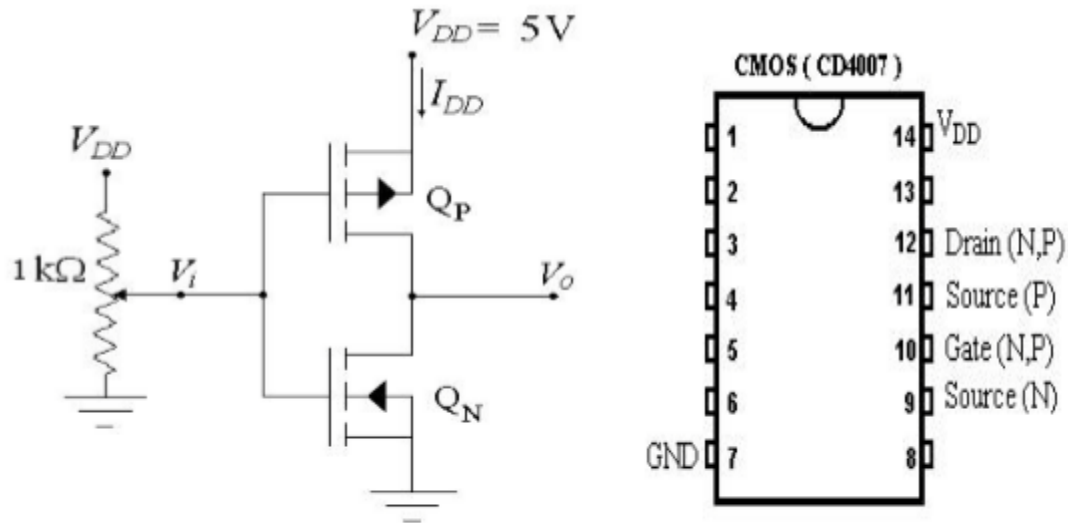

Figure 1: CMOS inverter and IC Chip (CD4007).
The CMOS Inverter is shown in figure 1. It consists of an N-channel MOSFET and a Pchannel MOSFET. The input is applied to the two gates. The substrate of each transistor is connected to the source, and therefore no body effect for both transistors. When  $V_i$  is high,  $Q_N$  is ON and  $Q_P$  is OFF. The output is low and  $V_{OL} \approx 0$  (typically less than 10mV). If  $V_i$  is low,  $Q_N$  is OFF and  $Q_P$  is ON. The output is high with  $V_{OH} \approx V_{DD}$  (typically less than 10mV below  $V_{DD}$ ). Since the inverter current as zero in each case; the static power dissipation is zero (typically a fraction of  $\mu w$ ).
1. Connect the circuit shown in Figure 1. Set the supply to 5V.